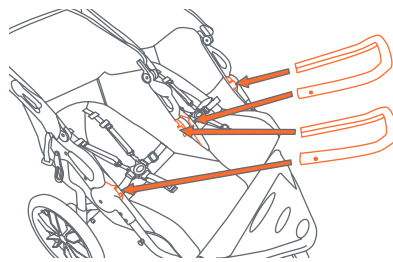

Fig. 10a
- 10) • Attach the bumper bar by lining up anchors with the slots on the seat. Push until it locks into place (Fig. 10a).